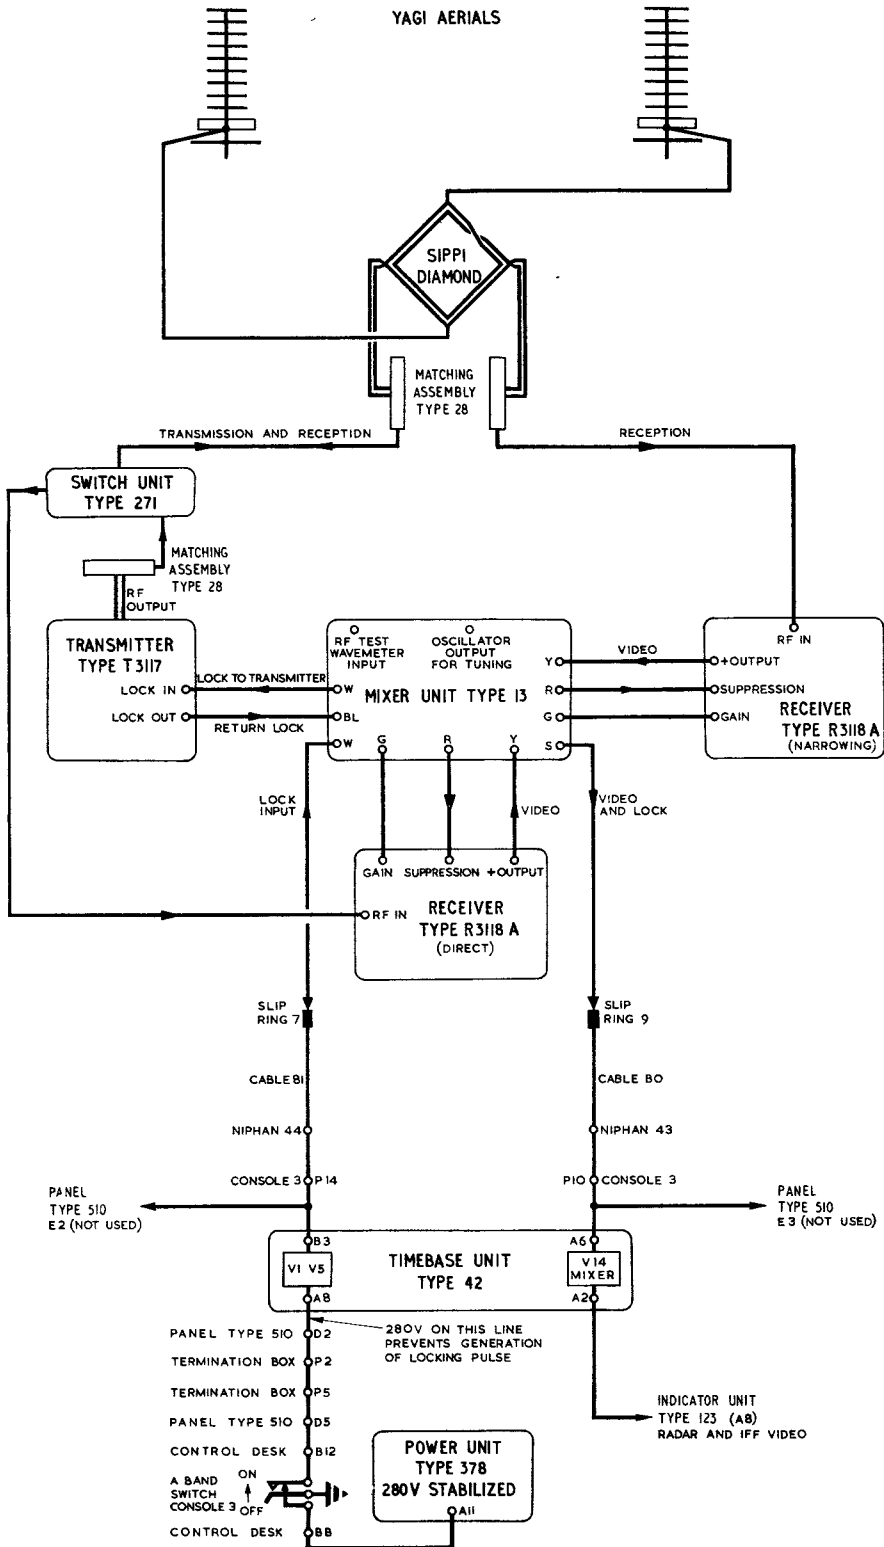

Fig. 38. IFF A-band signal chain
**115.** As shown in fig. 38 a locking pulse from timebase unit Type 42 in console 3 of display unit Type 5 is passed via mixer unit Type 13 to the IFF transmitter. When the latter fires, RF is passed to both Yagi aerials in phase, giving the usual wide beam.